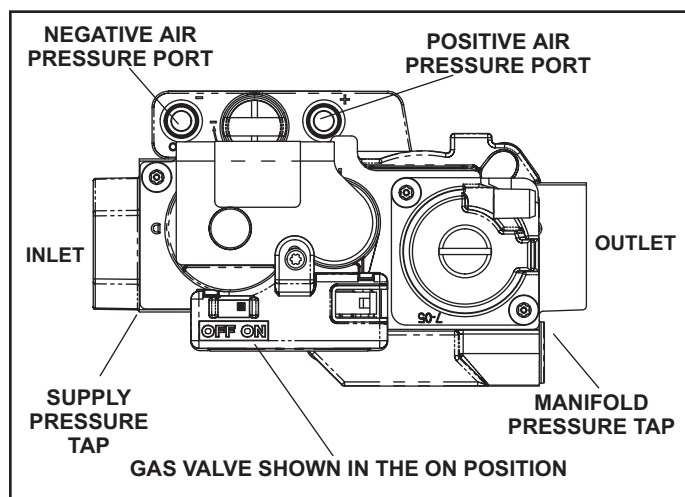

Figure 45. Gas Valve
6. Move gas valve switch to OFF. See Figure 45.
8. Move gas valve switch to ON. See Figure 45.